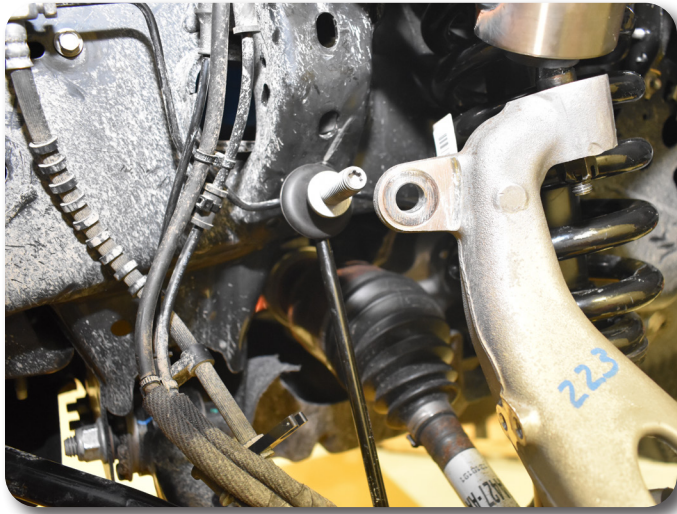

Figure 6
11. Disconnect the sway bar links from the steering knuckle **Figure 6**. The sway bar links do not need to be removed from the sway bar.
12. Remove the four sway bar mounting nuts and remove the sway bar from the vehicle **Figure 6 & 7**.